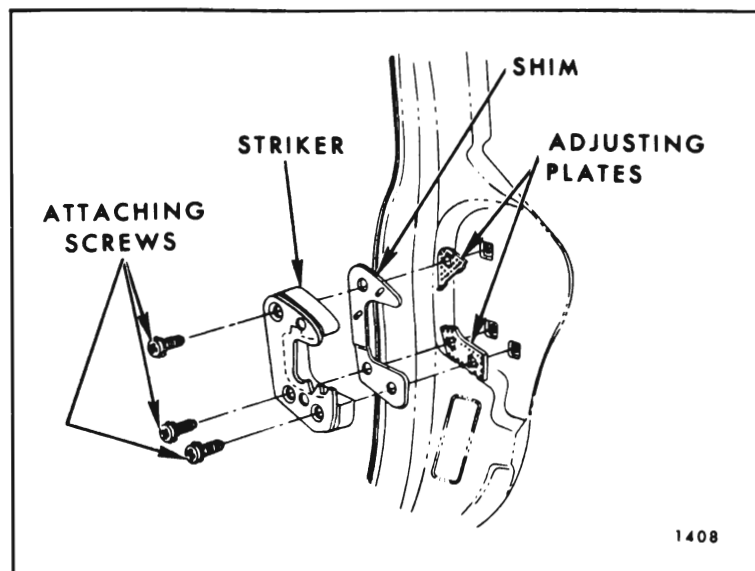

Fig. 7-34—Door Lock Striker Installation
As shown in Figure 7-34, the door lock striker is secured to the center pillar or body lock pillar by cross-recessed attaching screws. By loosening the screws the striker can be adjusted up-or-down or in-or-out. By adding or subtracting shims, the striker can be adjusted fore or aft.
2. Remove door lock striker attaching screws and remove striker and adjusting plates from pillar (Fig. 7-34).
shim is installed behind the striker assembly in production (Fig. 7-34).
Loosen striker plate attaching screws and shift striker and adjusting plates as required and tighten attaching screws (Fig. 7-34).